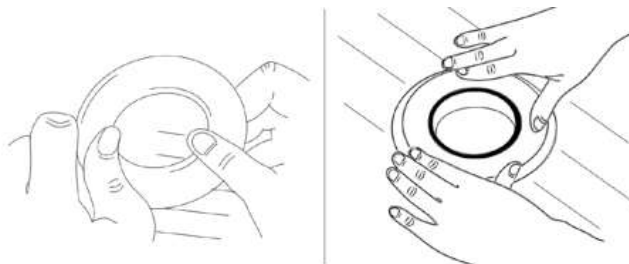

FIGURE 7
1. Install the trim rings (Figure 7).